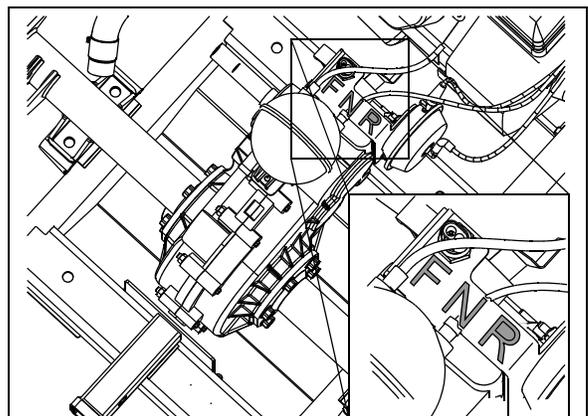

Figure 22
- Place shift lever into the neutral position. See Figure 22.